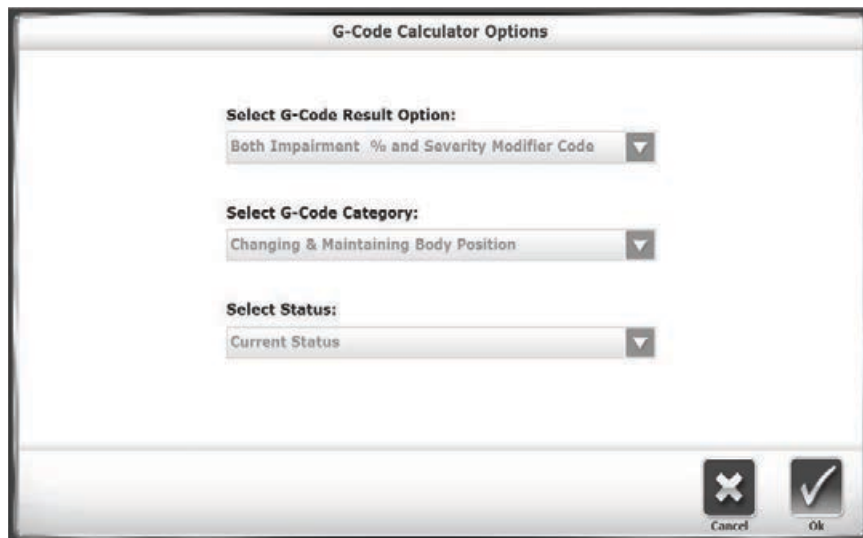

Figure 5.9. The G-Code Calculator Options screen.
- *G-Code Options* (Figure 5.9): Touch <G-Code> to apply certain G-Code settings to this particular patient.